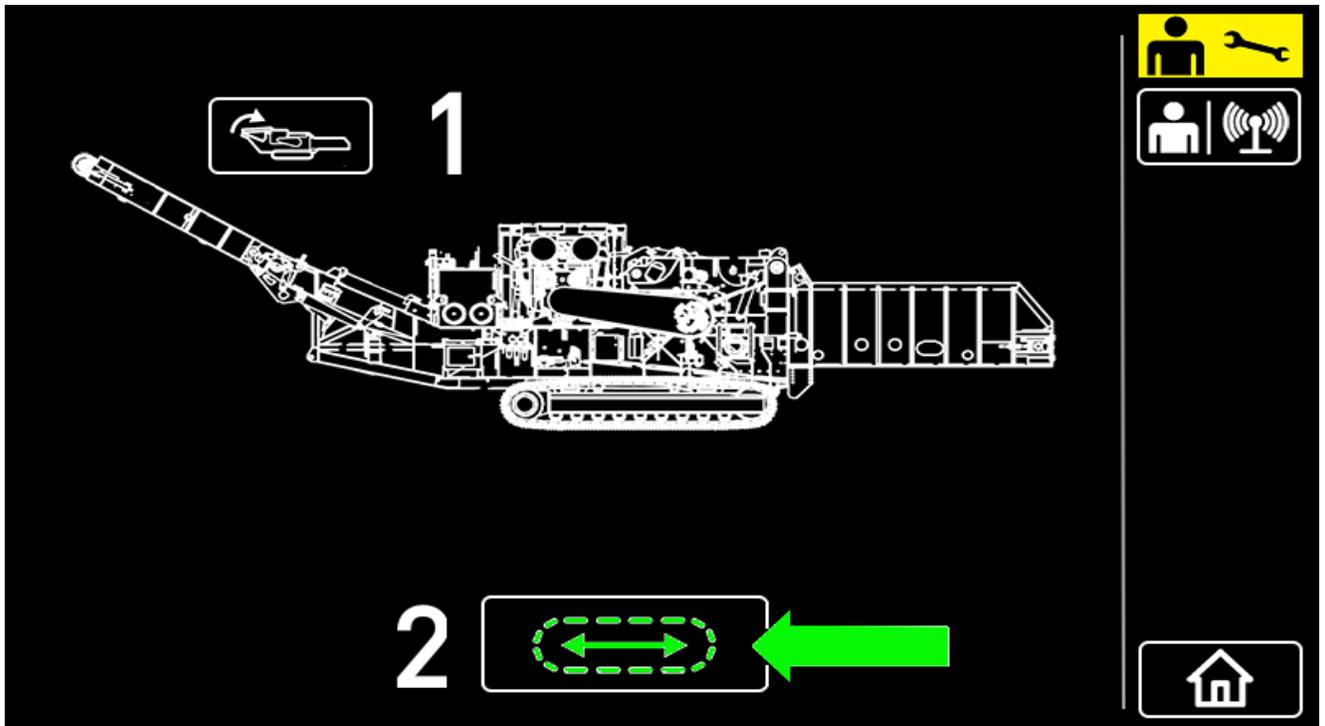

Figure 5.3 - Enable Track Mode
4. Still in the TRANSPORT MENU, press the TRACK MODE button (Figure 5.3) to enable TRACK MODE.